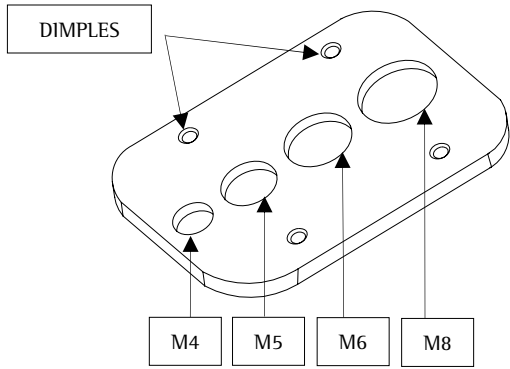

Figure 6
**EXAMPLE:** If your plasma uses M8 x 20 Phillip screws. Use the M8 mounting points (Figure 6).